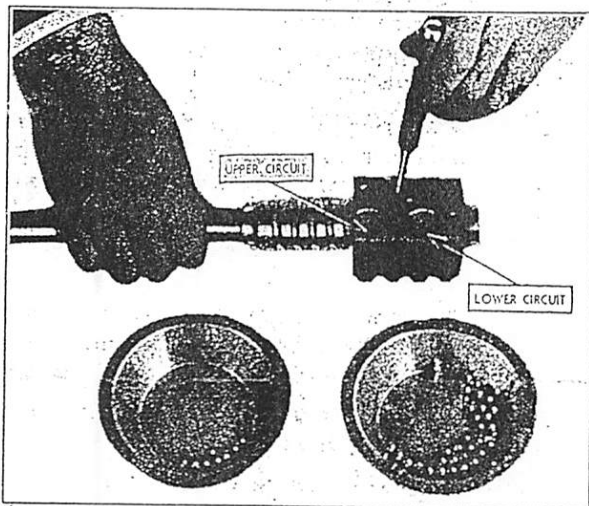

Fig. 21—Filling Ball Circuits in Nut
1. Place the wormshaft flat on the bench and slip the nut over the worm with the ball guide holes UP, Fig. 21. Align the grooves in the worm and nut by sighting through the bottom of the ball guide holes.
NOTE—In cases where the balls are stopped by the end of the worm, hold down those balls already dropped into the nut with the blunt end of a clean rod or punch, Fig. 21, and turn the worm in the reverse direction a